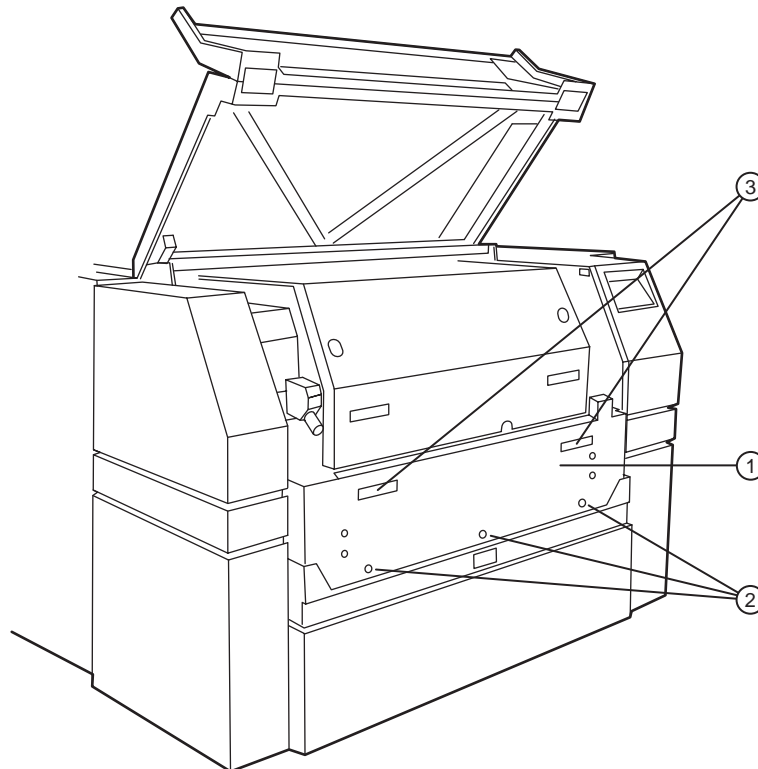

Figure 4-7 Take-up light shield.
3. Loosen the three thumb screws at the bottom of the light shield. Refer to Figure 4-7.
4. Grab the shield by the handles. Refer to Figure 4-7. Pull out, then up.